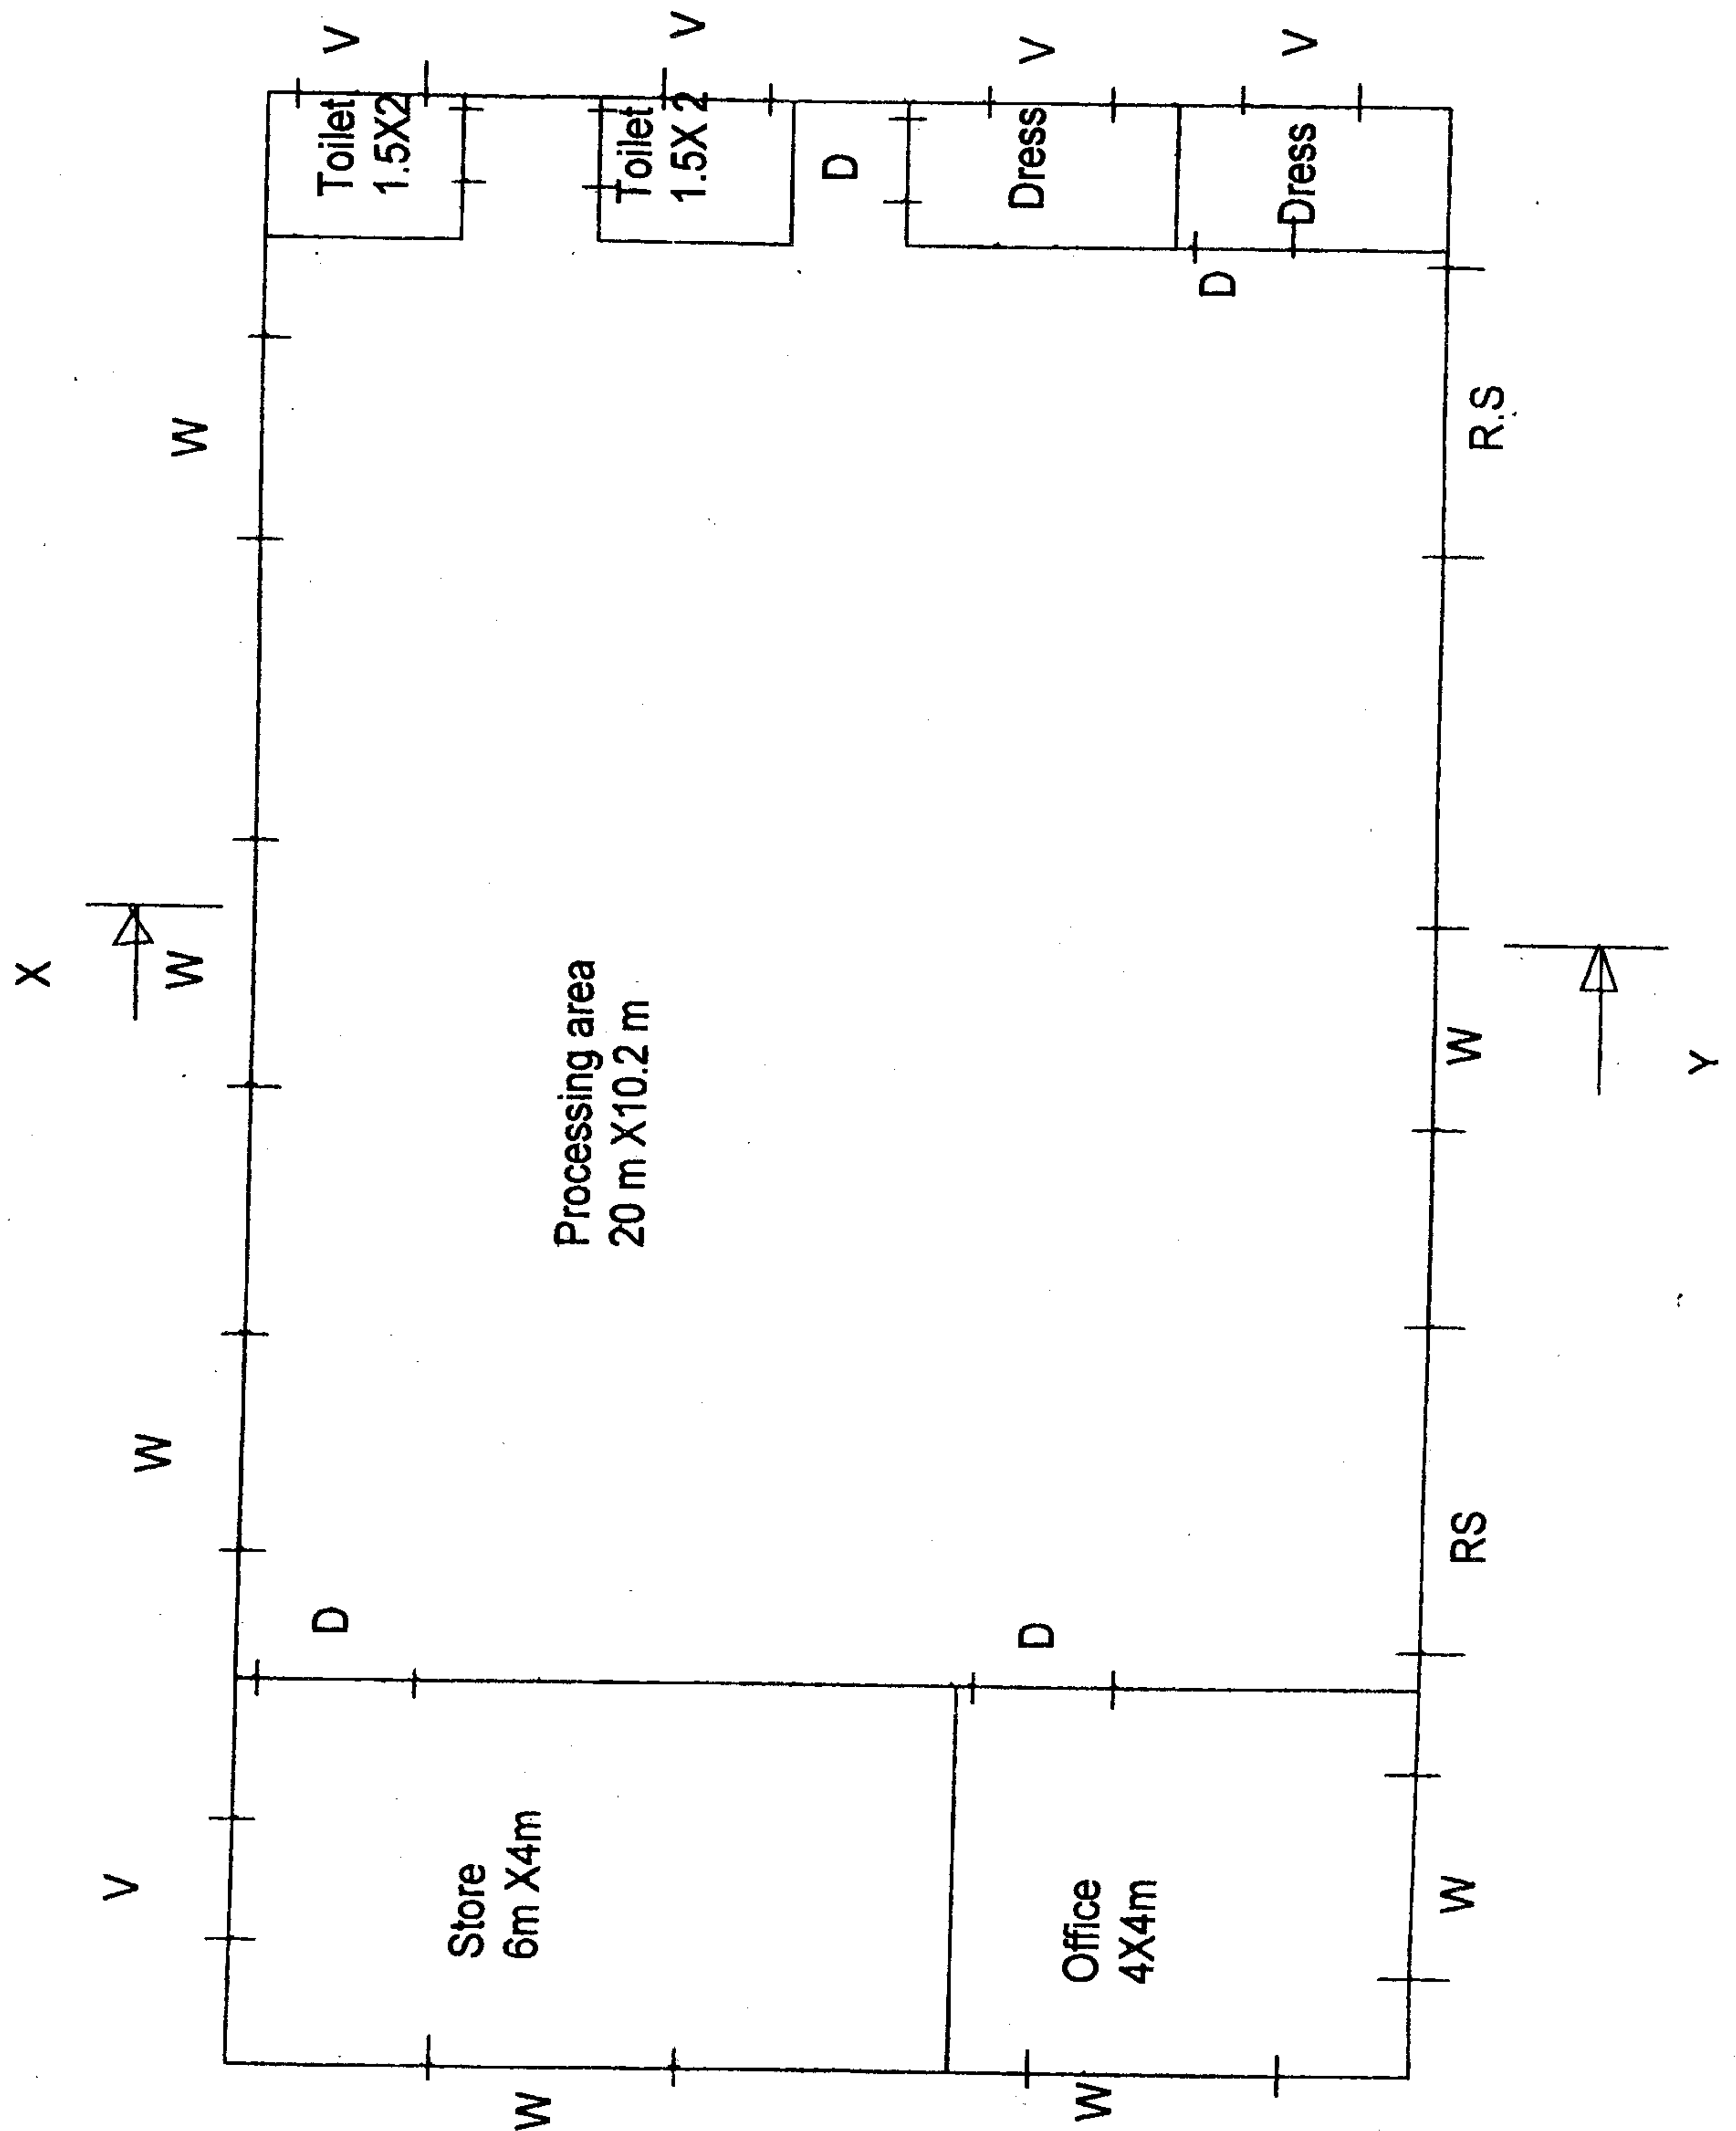

Fig. 2
4. Estimate the quantities of the following items of work for the building shown in the fig. 2.